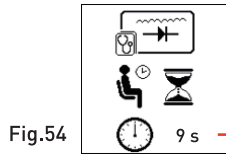

Fig.54
11. While the engine is still running, make sure the air condition is OFF and the headlights (low and high beams) are switched ON. Press  key to continue and the display will change to (Fig.54) as shown below: